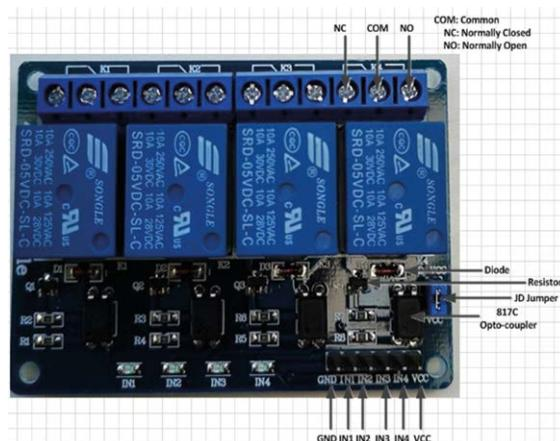

Figure 23.6: 4-channel relay board.
In this project the 4-channel relay board (see Figure 23.6) from Elegoo (www.elegoo.com) is used. This is an optocoupled relay board having four inputs, one for each channel. The relay inputs are at the bottom right-hand side of the board while the relay outputs are located at the top side of the board. The middle position of each relay is the common point, the connection to its left is the normally closed (NC) contact, while the connection to the right is the normally open (NO) contact. The relay contacts support 250 VAC at 10 A and 30 VDC, 10 A. IN1, IN2, IN3 and IN4 are the **active-LOW** inputs, i.e. a relay is activated when a logic LOW signal is applied to the input pin. Relay contacts are normally closed (NC). Activating the relay changes the active contacts such that the common pin and NC pin become the two relay contacts and at the same time the LED at the input circuit of the relay board, corresponding to the activated relay is turned ON. The V_{CC} can be connected to either +3.3 V or to +5 V. Jumper JD is used to select the voltage for the relay. **Because the current drawn by a relay can be in excess of 80 mA, you must remove this jumper and connect an external power supply (e.g. +5 V) to pin JD-VCC.**